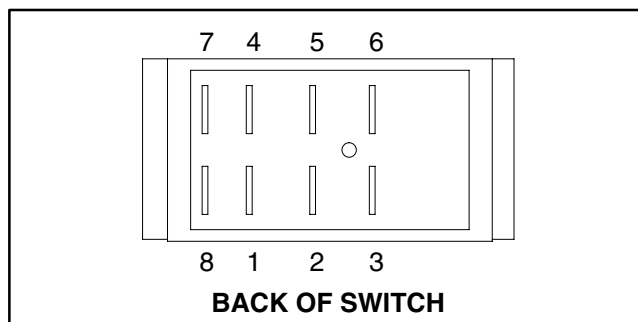

Figure 9
2. The switch terminals are marked as shown in Figure 9. In the ON position, continuity should exist between terminals 2 and 3 and also between terminals 5 and 6. In the OFF position, continuity should exist between terminals 1 and 2 and also between terminals 4 and 5.